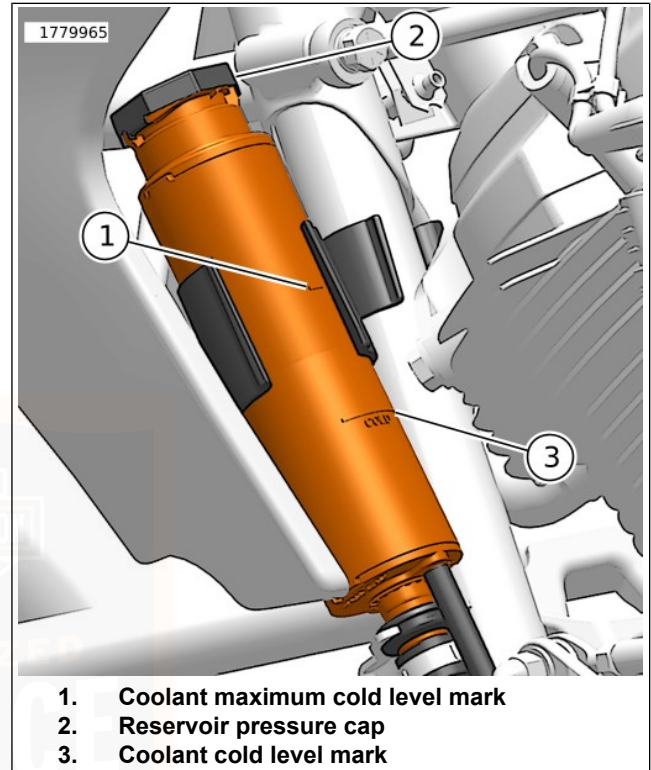

Figure 103. Coolant Level
1. See Figure 103. Check that coolant level in reservoir is between the coolant maximum level mark (1) and the coolant cold level mark (3).
3. See Figure 103. Remove reservoir pressure cap (2).
5. Add GENUINE HARLEY-DAVIDSON EXTENDED LIFE ANTIFREEZE AND COOLANT until fluid level reaches, or is slightly above the coolant cold level mark (3).